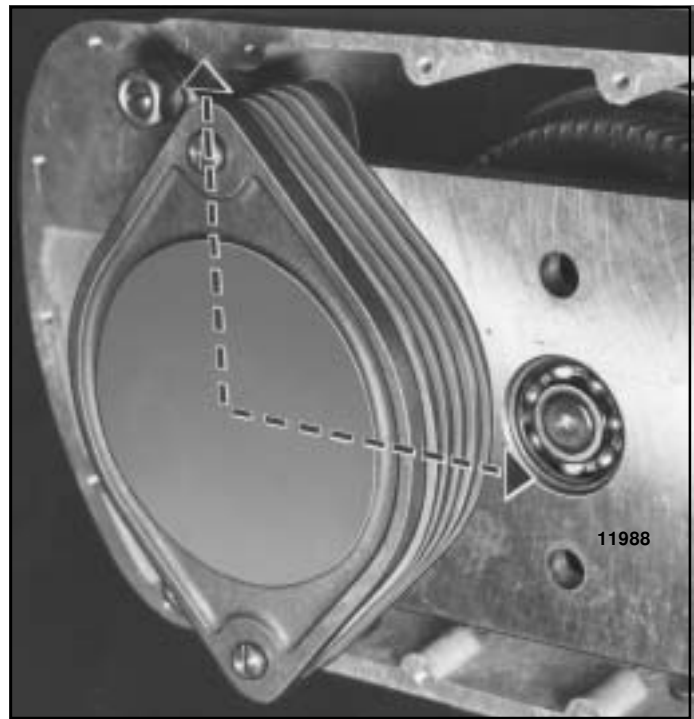

Figure 5-3. Motor Brake Friction Plates
- f. To check motor brake friction surfaces (Figure 5-3), drain oil from gearcase. Disconnect solenoid coil leads. Remove hex head cap screws securing gearcase cover to gearcase. Remove gearcase cover and attached motor brake actuating mechanism from gearcase.
- g. Remove retaining rings from the brake pilot studs and lift off the compression plate. Lift off washer and lining assemblies, release springs, and motor brake plates. (Note for reassembly, that two of the washer and lining assemblies have friction surfaces on one side only and must be replaced at each end. Three washer and lining assemblies, with friction surfaces on both sides and release springs are replaced between the motor brake plates; see Figure 5-3). Check motor brake plates for warping, scoring or other signs of deterioration. Also check spline fit of motor brake plates to the brake hub for gouging, mushrooming of the plates or other signs of distress or wear. Replace plates if these conditions are found. Brake plates which are replaced because of spline wear should also receive a replacement brake hub. Check condition of friction material on the washer and lining assemblies, and replace assemblies if required. Reinstall brake plates, release springs, and friction washers in sequence as shown in Figure 5-3 and replace retaining rings. On the Size 3 hoist it is possible to get the lining assemblies misoriented. When installed properly the friction linings will be on a horizontal line (not vertical). Clean and flush gearcase and replace gearcase cover using a new gasket. Refill with new lubricant.